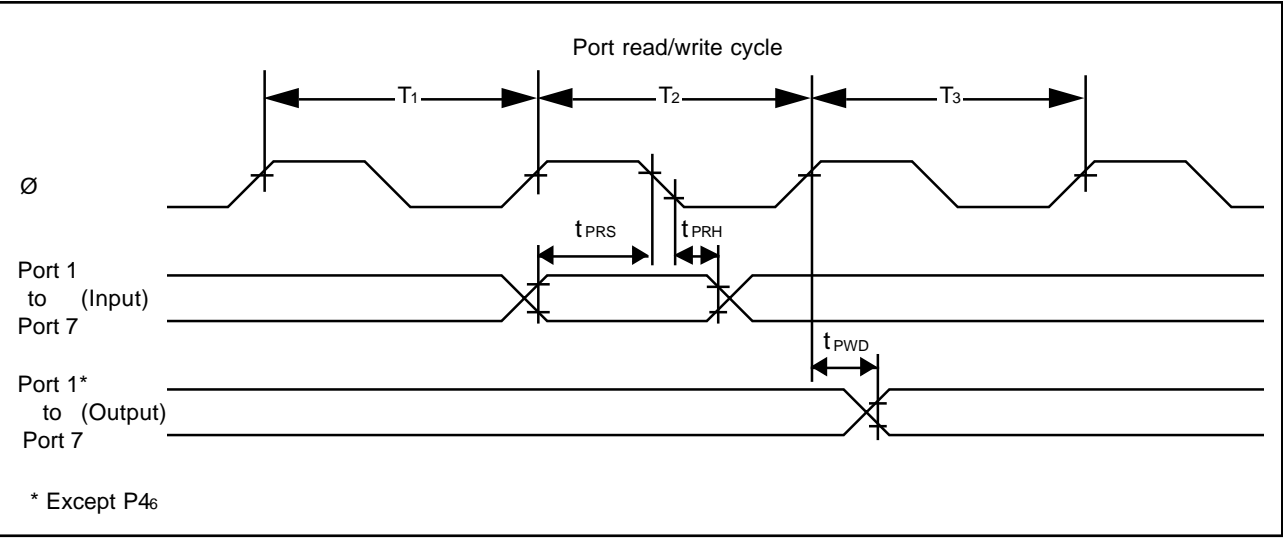

Figure 15-18. I/O Port Input/Output Timing
15.3.7 I/O Port Timing	Figure 15-18